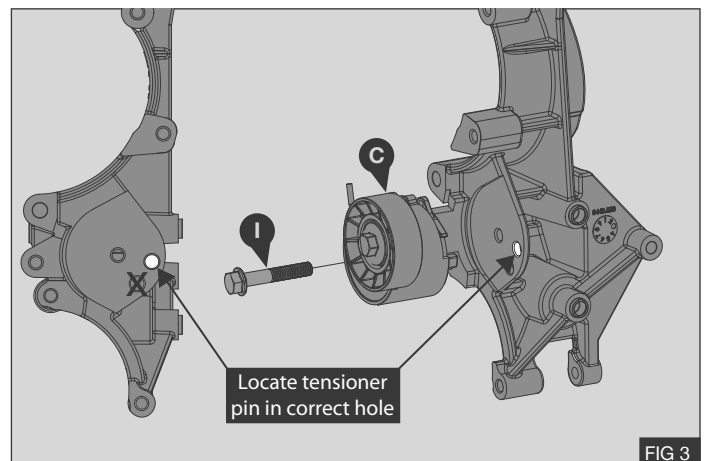

FIG 3
Caution: Make sure the tensioner is located in the correct position as shown in - Fig 3
1. Fit the original automatic tensioner **C** using original bolt **I** - Fig 3
2. Torque bolt **I** to 45Nm / 33 Lb ft - Fig 3